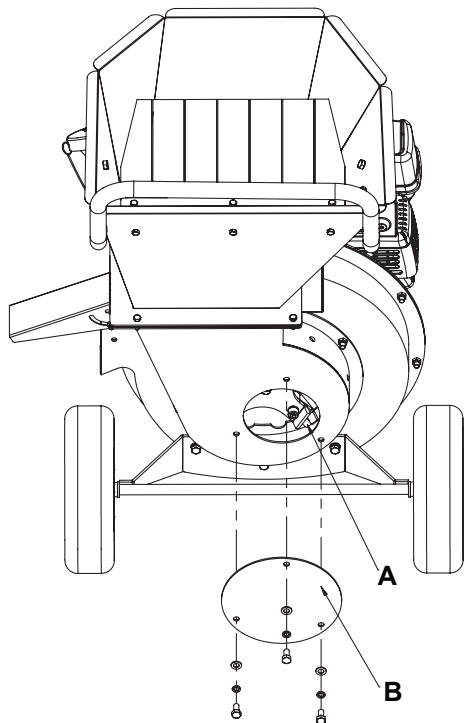

Figure 9
Inspect / Rotate Shredding Hammers (See Figure 9)
2. Remove the small circular access panel (B) from the back of the shredder housing. SEE FIGURE 9
3. Inspect the cutting edges of the Y-hammers (A).
3. Detach the rotor housing and hopper from the rotor plate. SEE FIGURE 9